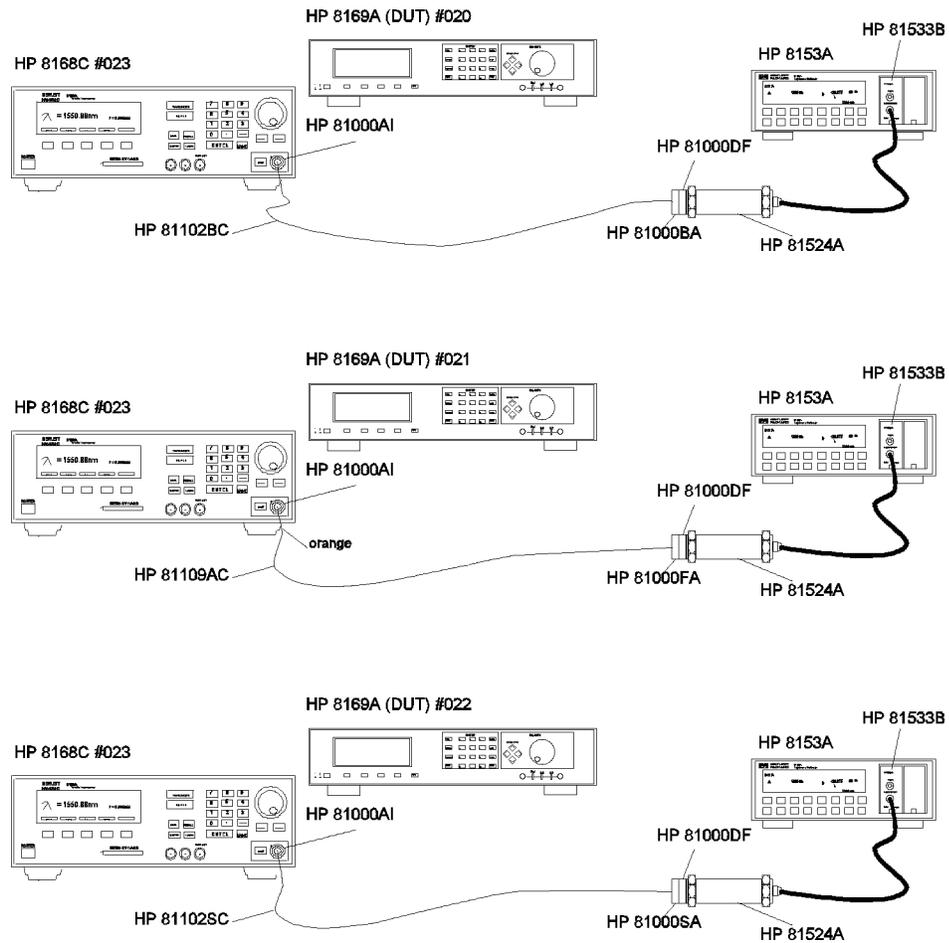

Figure D-2. Test Setup for Measuring the Reference Power
10. Connect the 8168A’s output to the 81524A Optical Head as shown in Figure D-2.